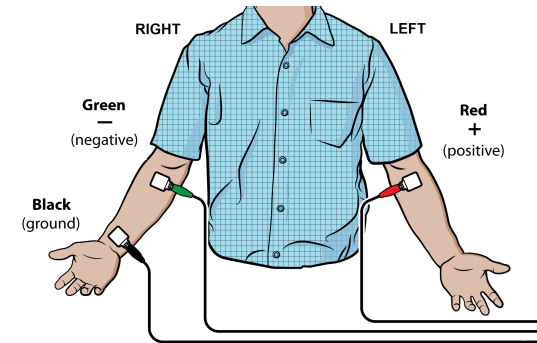

Figure 1
1. Attach three electrode tabs to the subject as shown in Figure 1. Place a single patch on the inside of the right wrist, on the inside of the right upper forearm (distal to the elbow), and on the inside of the left upper forearm
2. Connect the sensor clips to the electrode tabs as shown in Figure 1. Have the subject sit in a relaxed position in a chair with their forearms resting on their legs or on the arms of the chair.